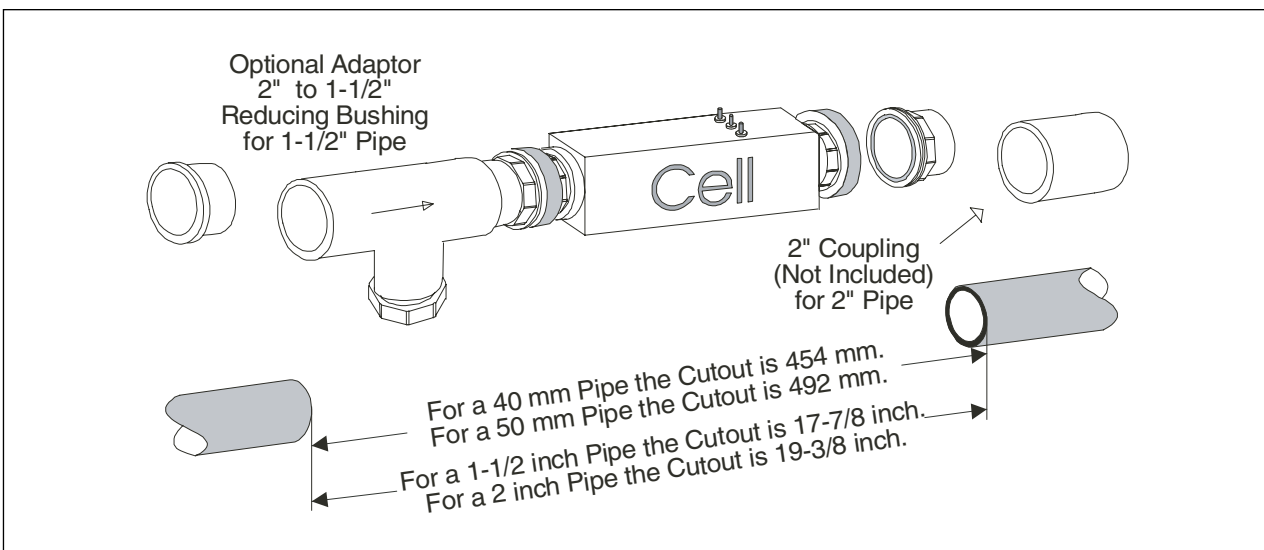

Figure 6. Pipe Cutout
5. If using 1½ inch (40 mm) pipe, cut out a 17 7/8 inch (454 mm) section of pipe to insert the Cell - Flow/Temp/Salinity Sensor Assembly (page 10 figure 6).
If using 50 mm (2 inch) pipe, cut out a 19 3/8 inch (492 mm) section of pipe to insert the Cell - Flow/Temp/Salinity Sensor Assembly (page 10 figure 6)